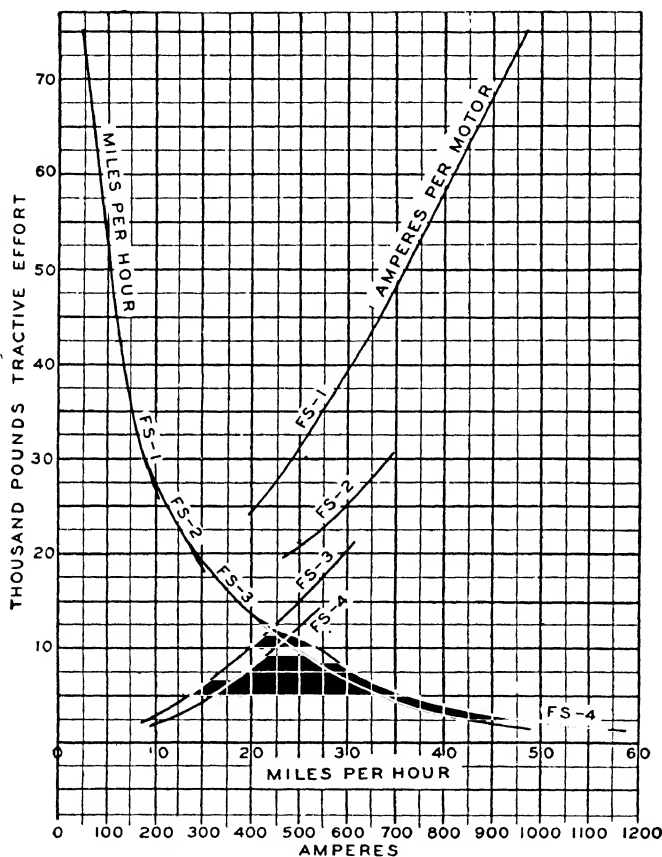

Fig. 1. 1000 Horsepower Performance Curve
**PERFORMANCE.** The approximate performance of the locomotive is indicated by the curves shown in Figs. 1 and 2.
The performance curves include the motor current; the current demand on the main generator may be determined by a load ammeter, and by referring to the curve marked "Miles Per Hour," Fig. 1, the operator can determine the approximate speed at which the car or locomotive should be traveling, if the equipment is in good shape and properly adjusted.